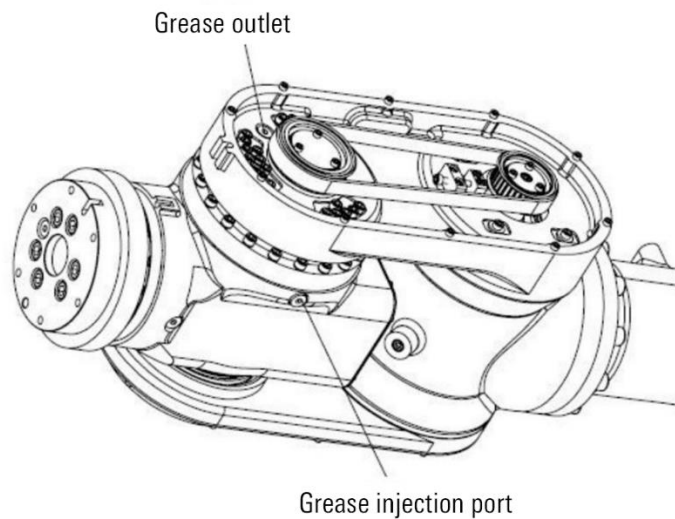

Figure 12-17 Replace the lubricating grease of J5 axis reducer
- Step5. Remove the plug of the M10x1 grease outlet, as shown in Figure 12-17.